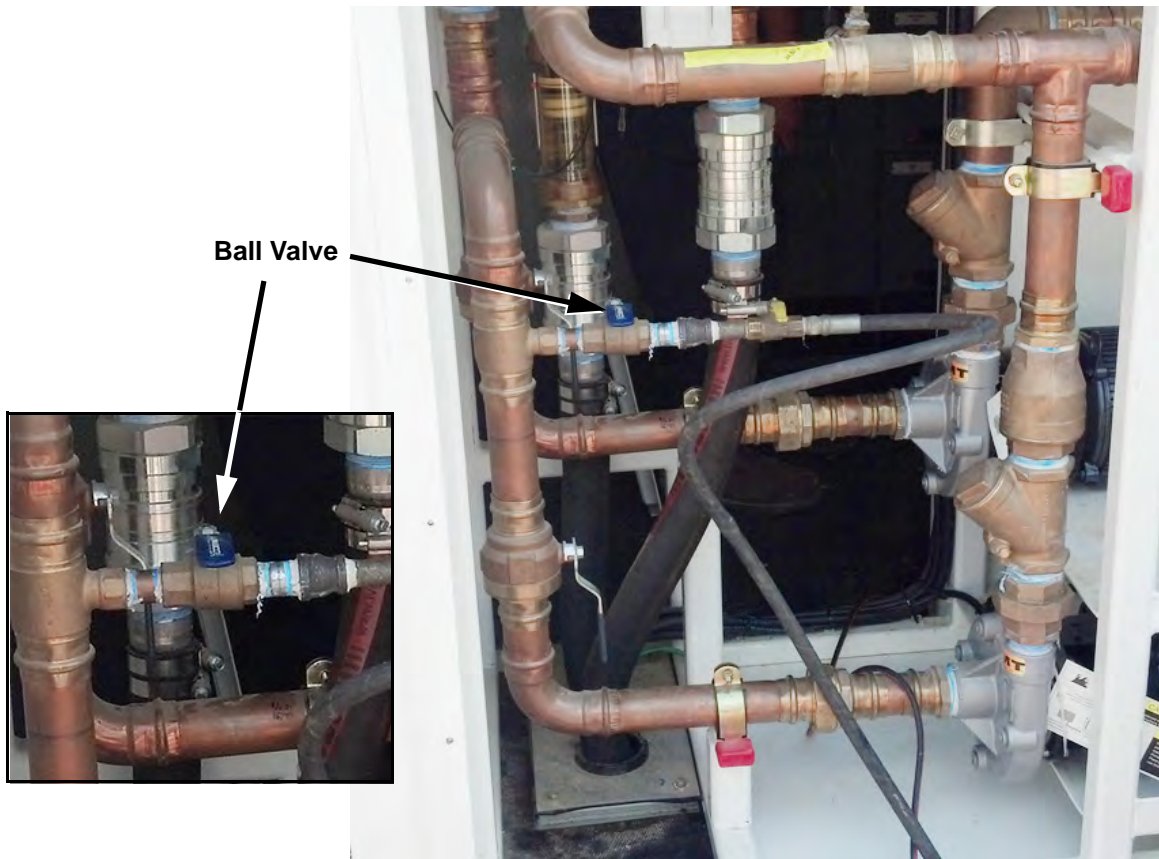

Figure 8: Pressure Hose connected to the Intake
2. Connect the pressure hose to the cooling system intake (filling/drain). (See Figure 8). Keep the ball valve open.